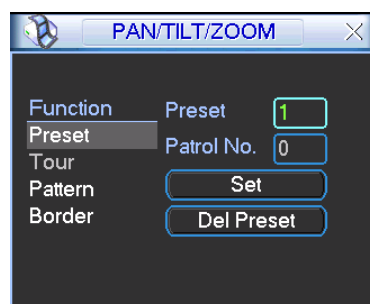
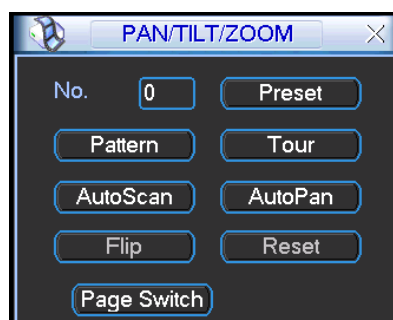
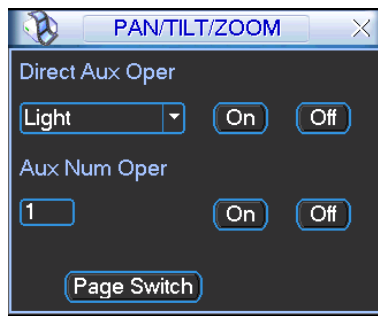

Figure 2-10
Figure 2-11
Figure 2-16
In Figure 2-7, please click the “set” button. The interface is shown as below. See Figure 2-10.
In Figure 2-7, click page switch button, the interface is shown as in Figure 2-11.
- The following setups are usually operated in the Figure 2-7, Figure 2-10 and Figure 2-11.
In Figure 2-10, click preset button and input preset number. The interface is shown as in Figure 2-12.
In Figure 2-11, please input preset number in the No. blank, and click preset button.
In Figure 2-10, input patrol (tour) number in the No. blank and click patrol button
In Figure 2-10, click pattern button and then click “begin” button. The interface is shown as in Figure 2-14. Then you can go to Figure 2-7 X to modify zoom, focus, and iris.
In Figure 2-11, click “Auto Scan” button, the system begins auto scan. Correspondingly, the auto scan button becomes Stop button. Click stop button to terminate scan operation.
In Figure 2-11, click page switch button, you can see an interface is shown as below. See Figure 2-16. Here you can set auxiliary function. The aux value has relationship with the Aux button of the decoder.
In Figure 2-16, click Page Switch button, you can go to Figure 2-17. (Please note only SD1 and SD2 protocol can go to the following interface.)